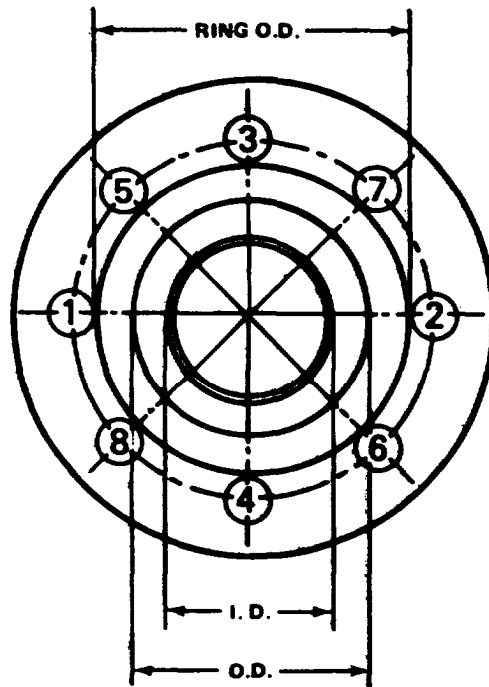

FIGURE 2-263. Torque Sequence Diagram (Typical).
- (1) Tighten nuts in sequence as shown in FIGURE 2-263.
- (2) Tighten nuts until a noticeable increase in torque is felt and when metal to metal contact is made.